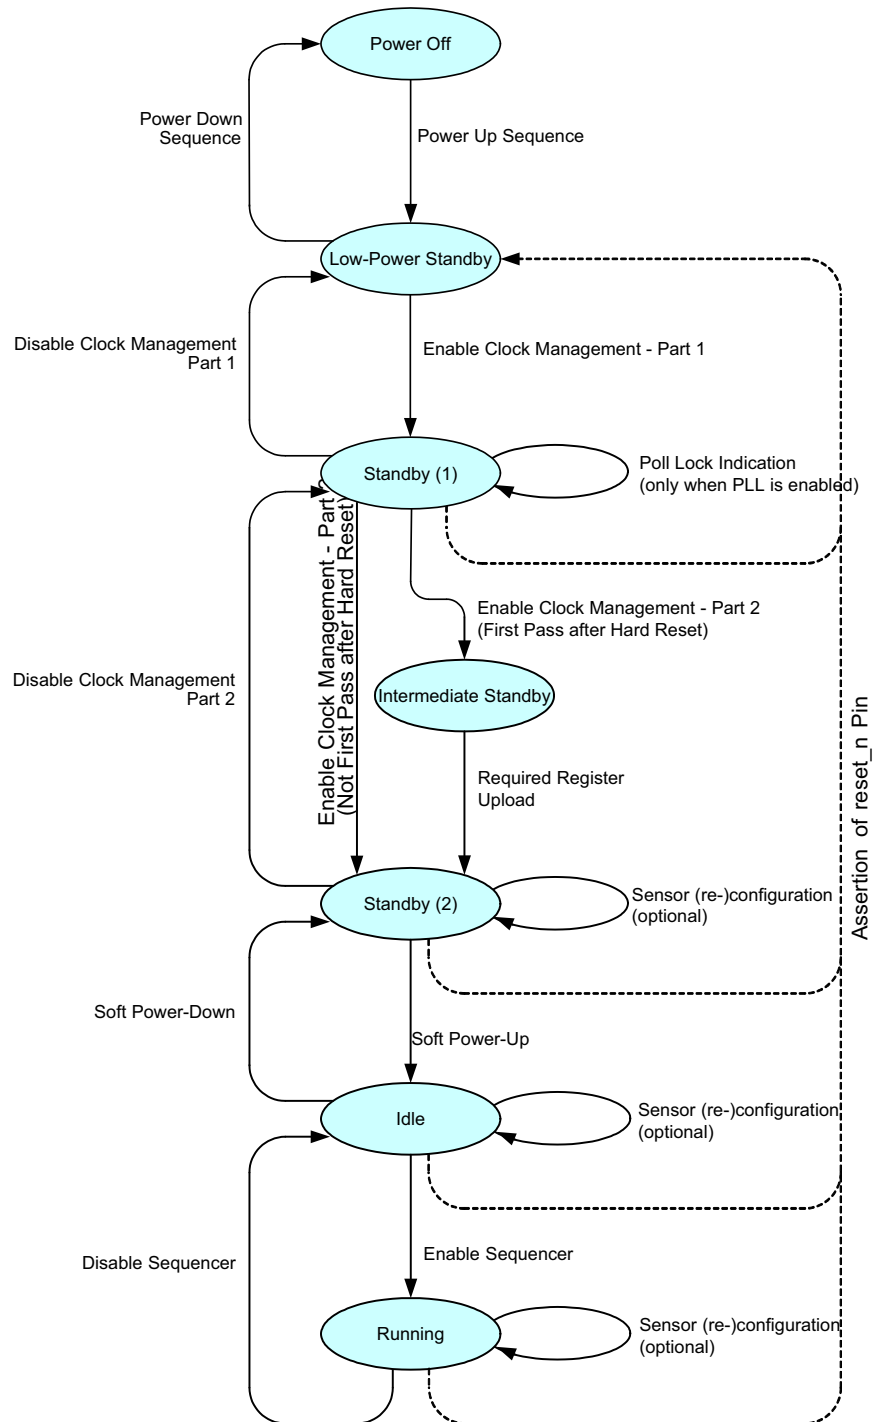

Figure 15. Sensor Operation Flowchart
Figure 15 shows the sensor operation flowchart. The sensor has six different 'states'. Every state is indicated with the oval circle. These states are Power off, Low power standby, Standby (1), Standby (2), Idle, Running.
Check the PLL\_lock flag 24[0] by reading the SPI register. When the flag is set, the 'Enable Clock Management– Part 2' action can be continued. When PLL is not used, this step can be bypassed as shown in Figure 15 on page 15.